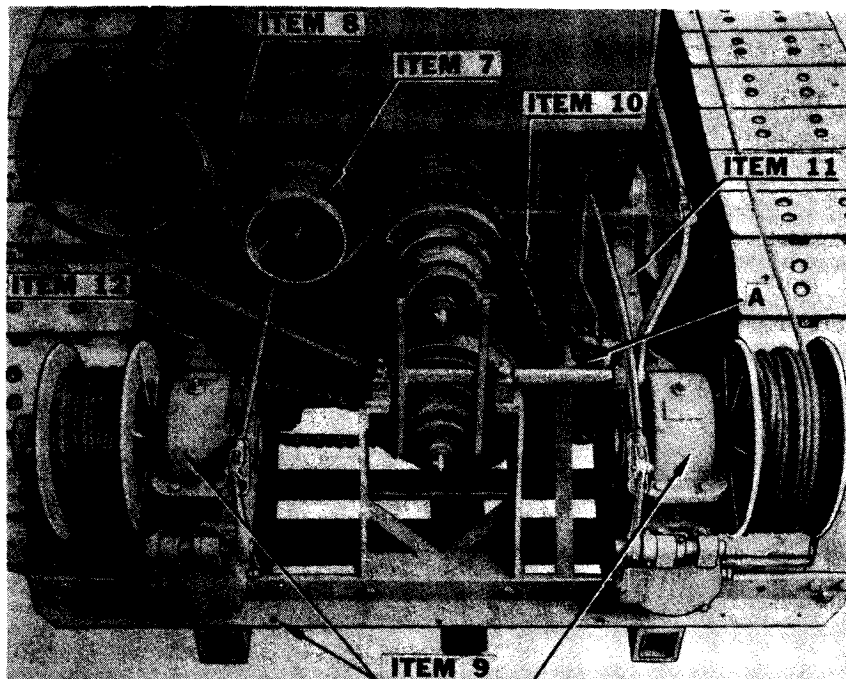

Figure 9 Power Take-Off and Hoist Assembly
ITEM 7 - Figure 9
Hoist the belt idler (Item 7), Figure 9, into position. The stud (Item 6) partially supports this idler assembly. Set nuts on both ends of the stud. Two shims are supplied for the right hand bolting plate of the bracket. Use one or two shims between the bolting plate and the power take-off bearing housing to fill the space between the parts.
ITEM 8 - Figure 9
Place belts (Item 8), Figure 9, in grooves of both sheaves on power take-off assembly. Pull the belts to the left and place them under the idler pulley. Lay the belts over the upright angle portion of the idler bracket in order to hold them out of the way of following assembly operations.
Observe the course of the drive belts in Figure 9.
ITEM 9 - Figure 9
ITEM 10 - Figure 9
Observe proper course of the chain (Item 10) around all the drive sprockets shown in Figure 9. Connect chain. Adjust to the proper tension by means of an adjustment bolt on idler sprocket mounting (A) in Figure 9.
ITEM 11 - Figure 9
Two capscrews on the gear housing cover have sufficient extra length to clamp the forked end of the bracket (Item 11), Figure 9, to the housing cover.
ITEM 12 - Figure 9
Mount the forked end of the bracket (Item 12), Figure 9, on the hoist housing cover by the same procedure as described for the previous item. Fasten the opposite end of the bracket to the idler support with one 1/2" capscrew.